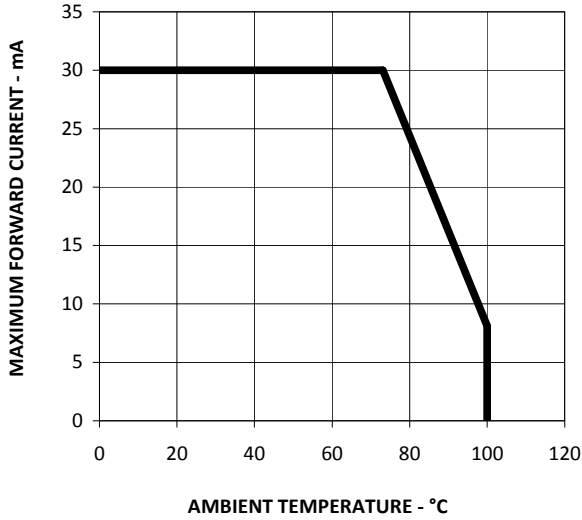

Figure 4. Maximum Forward Current Vs. Ambient Temperature. Derated Based on  $T_{jMAX} = 110^{\circ}C$ ,  $R\theta_{JA} = 300^{\circ}C/W$
1. Derate linearly as shown in Figure 4.